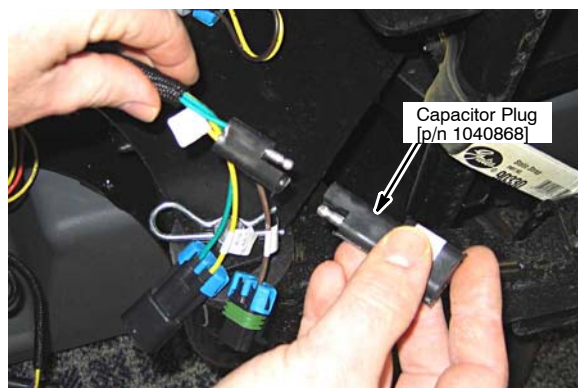

Fig. 13
12. From the bottom of the machine, route the *ec-H2O* wire harness through hole as shown (Figure 13).
13. Connect the capacitor plug [p/n 1040868] into the routed *e-H2O* wire harness as shown (Figure 13).